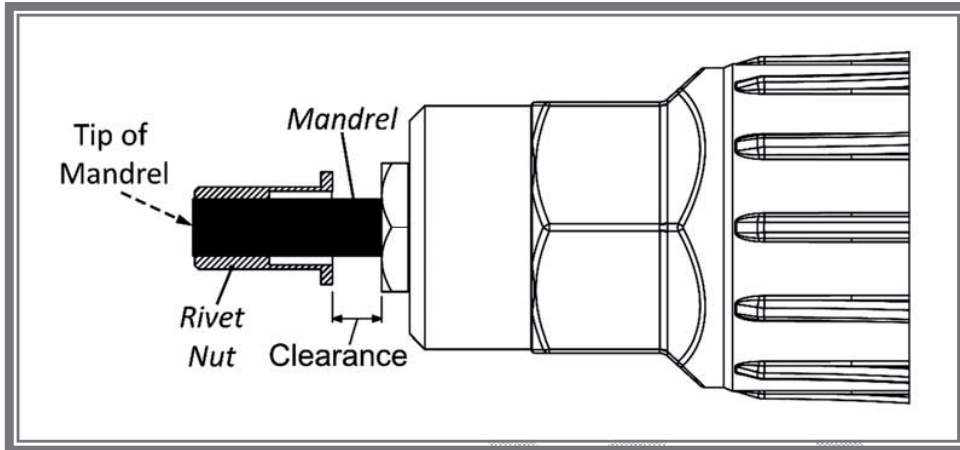

Figure 5
7. Release the trigger of power drill when the tip of rivet nut reaches tip of the mandrel (figure 5).
NOTE: if not using the included mandrel or the recommended mandrel length, or if the rivet nut to be used is shorter or longer than typical rivet nuts, please leave a clearance of $4 - 8$ mm between the end of rivet nut and the anvil (figure 5) to allow the drive mechanism to engage sufficiently prior to compressing rivet nut. Not leaving enough clearance could lead to early failure of the drive mechanism.
If the rivet nut you are using is longer or shorter than the typical rivet nut of the same thread size, please choose longer screw or shorter screws, and make sure there is a clearance of 4 mm – 8 mm between the rivet nut and the anvil. Please see figure 5 for more details.